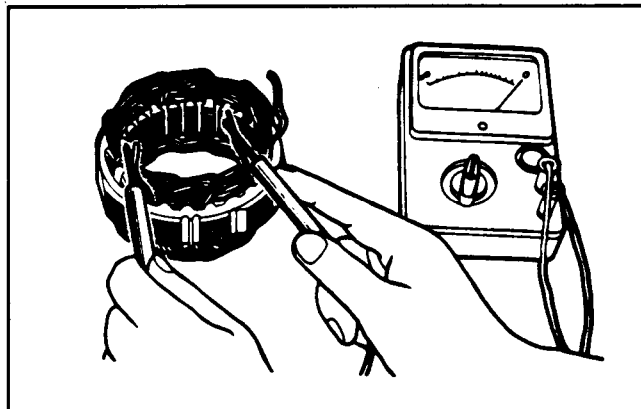

Figure 42
12. Check for continuity between lead wires of the stator coil (Fig. 42). Replace the stator coil if there is no continuity.